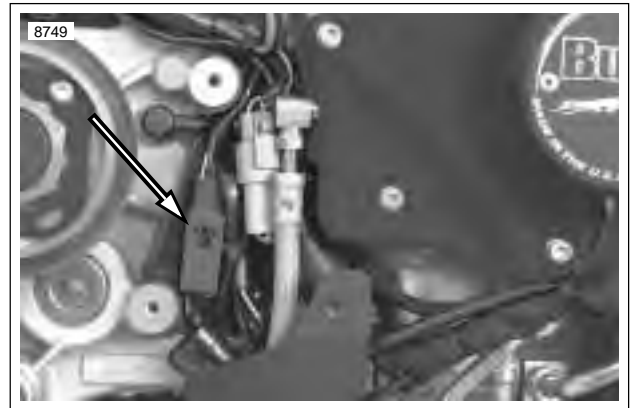

Figure 7-62. Cam Position Sensor Connector
1. See Figure 7-62. Locate the 3-place cam position connector [14] under the sprocket cover. See 2.30 SPROCKET COVER.